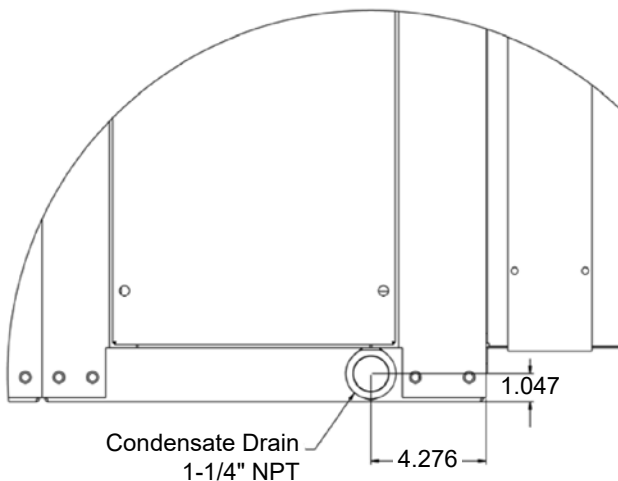

Figure 1 - Condensate Drain Location
Each EZ-Fit evaporator has a condensate drain connection in the base frame (Ref. Figure 1). If the application contains dual modules two (2) drain traps are required.
Traps will need to be connected to the 1-1/4" NPT drain connection(s) (Ref. Figure 1).